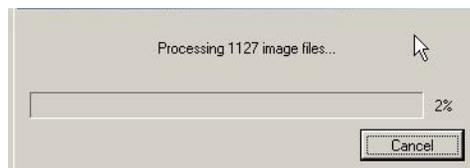

Figure 8.20 – Progress bar
4. A progress bar appears (Figure 8.20) and after approximately 5-10 minutes (depending on the number of “.sfrm” files read) the simulated precession image will appear on the screen. Display other planes by clicking on the calculated images to the bottom right of the work area or by browsing as usual with the **View** module.